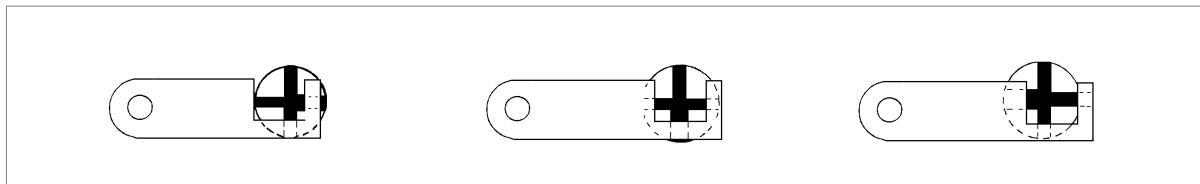

Fig. 18
- 3) Rest the key stop against the bar in one of the three positions (fig.18).